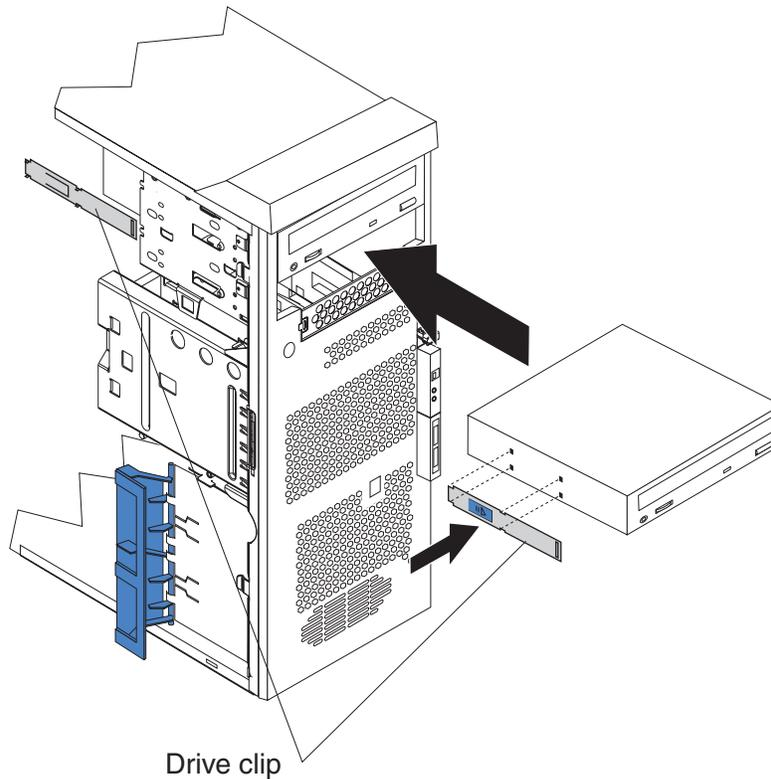

Figure 13. Drive clips on removable-media drives
13. Remove the clip from the side of the drive cage of bays 1 and 2 by sliding the clip to the left; then, snap the clip into the screw holes on the side of the drive or conversion kit (with the blue side of the clip facing outward) (see Figure 13 on page 38).